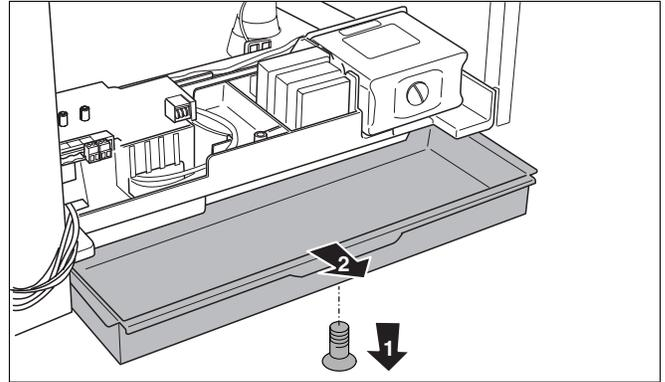

Fig. 34 Opening the drawer
- Loosen the screw (fig. 34, step 1).
- Pull open the drawer (fig. 34, step 2).